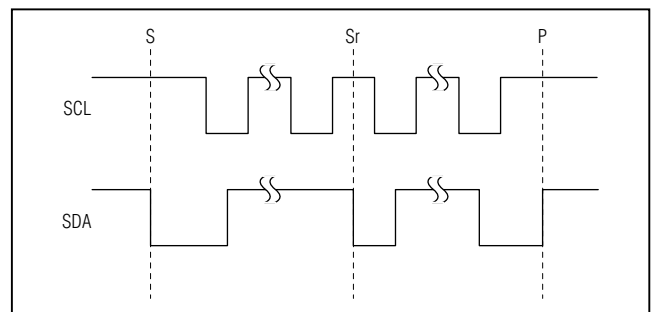

Figure 8. START, STOP, and REPEATED START Conditions
SDA and SCL idle high when the bus is not in use. A master initiates communication by issuing a START (S) condition. A START condition is a high-to-low transition on SDA with SCL high. A STOP (P) condition is a low-to-high transition on SDA while SCL is high (Figure 8).